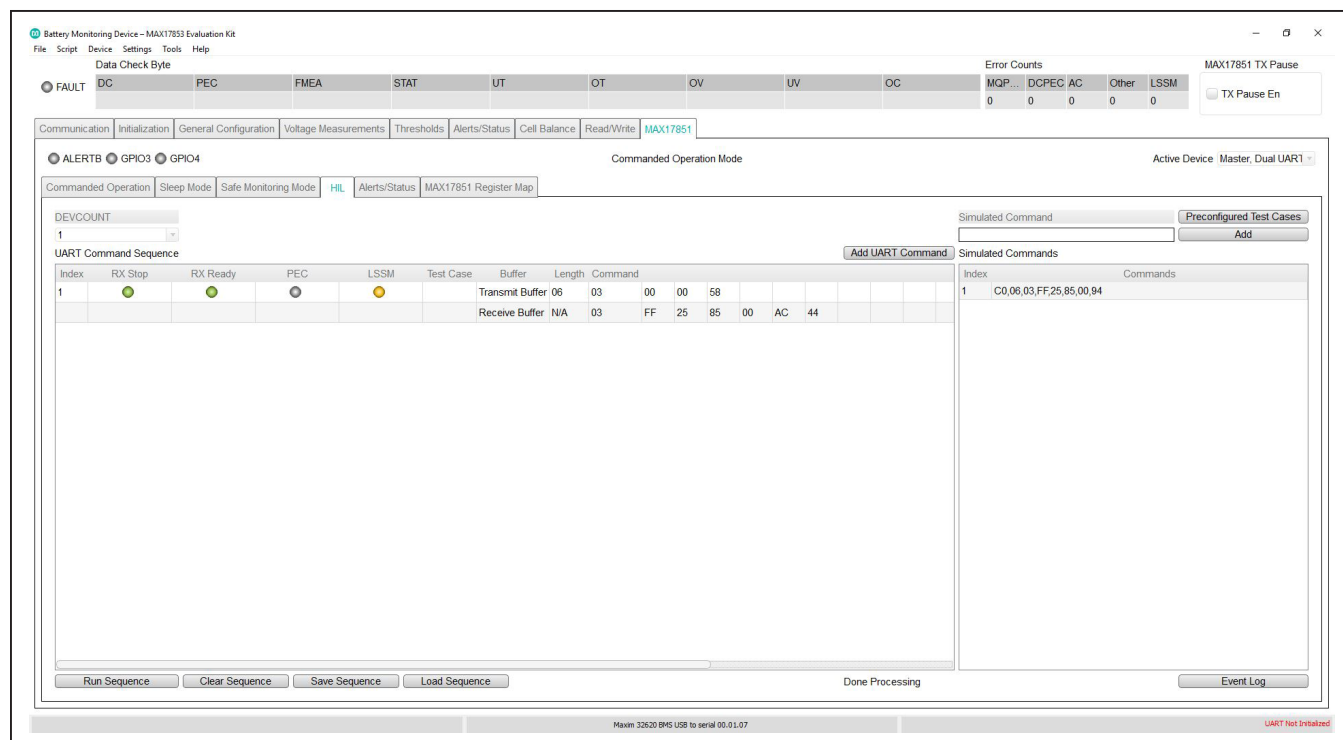

Figure 19. HIL run sequence
- 5) Select the **HIL** tab (Figure 19) and set the **DEV-COUNT** drop-down list to **1**. This is the number of simulated devices.
- 6) Click on the **Add UART Command** button and observe the **UART Command Sequence** be populated with an empty sequence. Populate the fields next to **Transmit Buffer** as Figure 19. The UART command **06,03,00,00,58** will be loaded to the Master once the sequence begins.
5) Select the **HIL** tab (Figure 19) and set the **DEV-COUNT** drop-down list to **1**. This is the number of simulated devices.